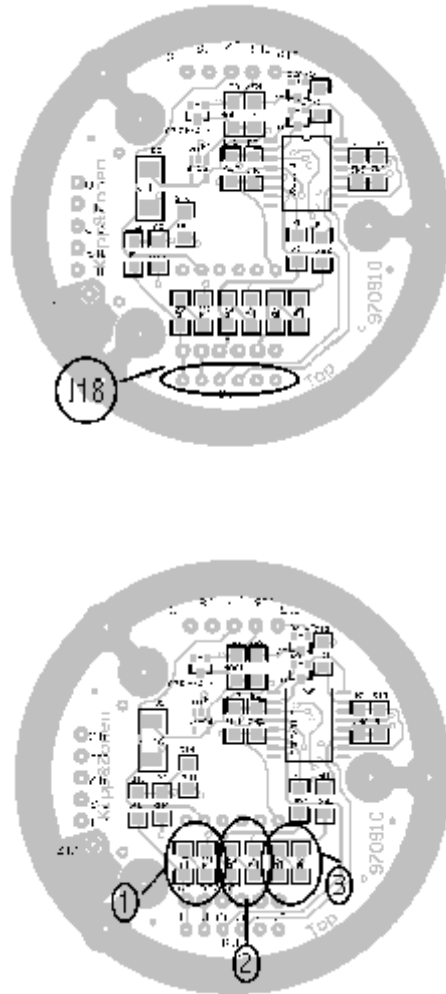

Figure A-1 Position of Calibration Resistors and Connector J18
2. The detector D1 of the reference is always considered to be the reference detector. Take the average reading of J18-1 and J18-2, (see Figure A-1, below) and rotate the CSD3 around its axis to take a total of 4 readings. The average of these readings is called REF1.